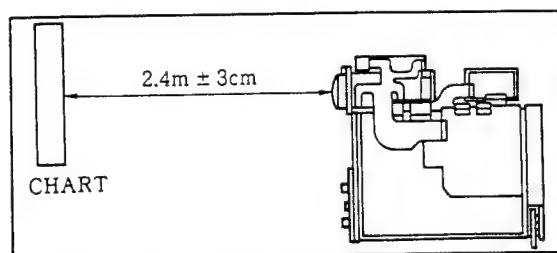

Fig. II-40
- (1) Power ON the character generator to display the initial screen and wait for about 5 seconds. Then, press the AF ON/OFF button to display the adjustment screen as shown in Figure II-40.
- (2) Turn focus ring and set a reference stroke value marked on the zoom encoder P.C.B. on the adjustment screen. (Fig. II-40).
- (3) Confirm that the reference stroke value has been set correctly. Then press the AF ON/OFF button to stop the zoom lens at the wide end.
- (4) Turn the focus ring at the wide end to bring the zoom lens into focus at the wide end.
- (5) Press the AF ON/OFF button to move the focus lens over a certain distance and stop it.
- (6) Press the Power Zoom button to move the zoom lens from the wide end to the telephoto end.
- (7) Bring the zoom lens into focus at the telephoto end by taking the following into consideration:
- ① The focal position of the zoom lens is directly proportional to the zoom encoder and focus encoder values displayed on the adjustment screen.
- ② The zoom lens reaches its focal position at the telephoto side if it comes into focus for the second time while moving from the wide end to the telephoto side.
- ③ If the zoom lens passes its focal position, it can be returned to the focal position by pressing the Power Zoom button at the wide side.